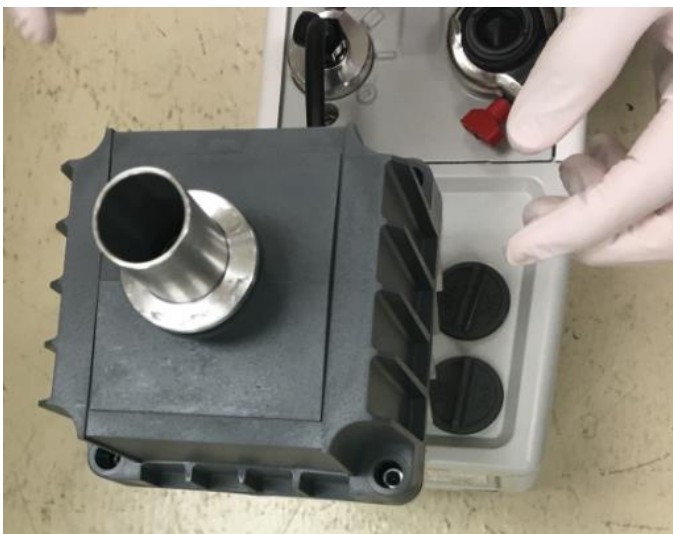

Figure 32: Installing the oil mist filter top adapter
- 12) Add the top adapter. See Figure 32.